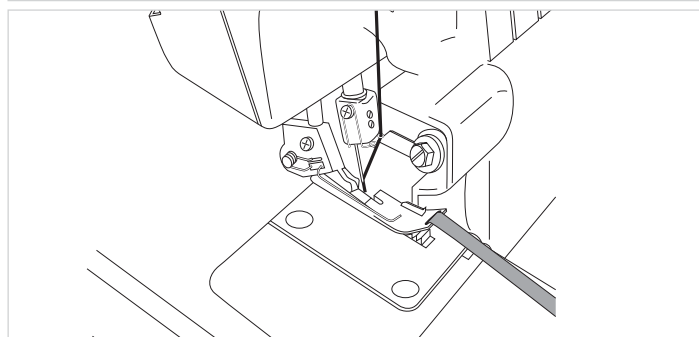

Fig. 106
3. Pull the cord inlay (yarn or reinforcing strip) through the slot in the front of the sewing foot 21 (Fig. 106).